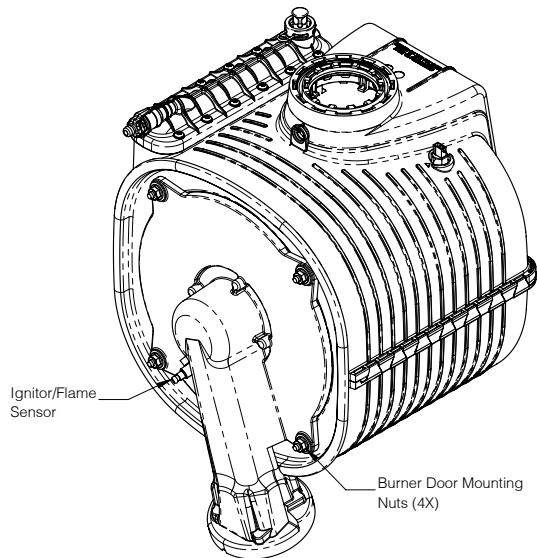

Figure 17-1: Ignitor/Flame Sensor Location
- E. Use a 10 mm wrench to remove four nuts securing burner door to heat exchanger (Figure 17-1). Carefully remove door/blower, being careful not to damage the refractory insulation on inside of door (see Refractory warning) or ignitor/flame sensor.